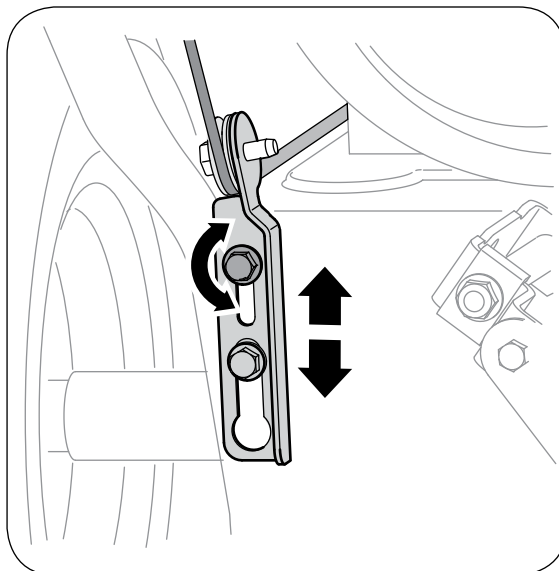

Figure 2
4. Allow the auger to remain engaged for approximately ten (10) seconds before releasing the auger control. Repeat this several times.
8. Position the bracket upward to provide more slack (or downward to increase cable tension). See Figure 2.